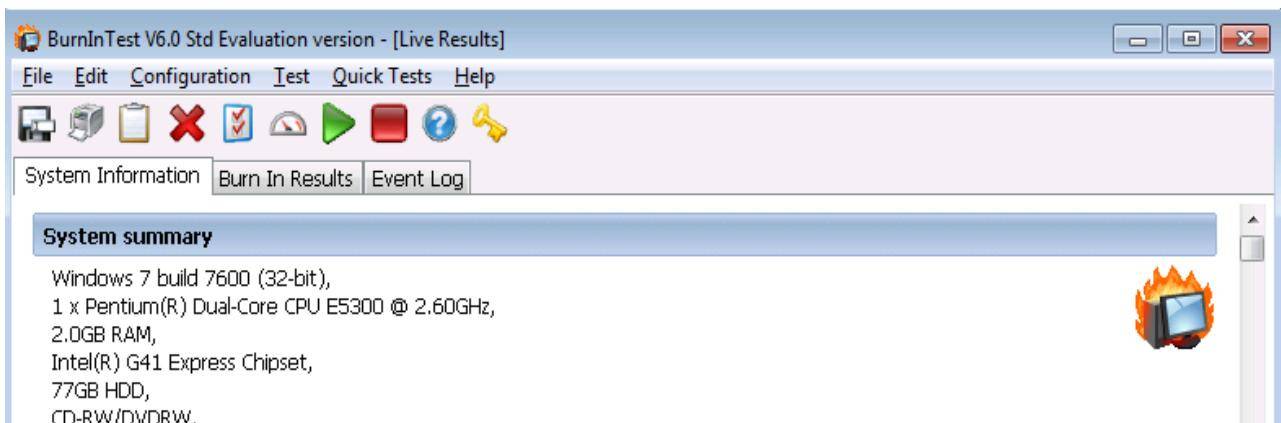

Figure 5.6
2. A “Burn-InTest” window will appear shortly. Below in Fig. 5.6 is part of the window.
3. Click and drag the vertical bar down, until you find “Memory” test results as in Fig.5.6 below.